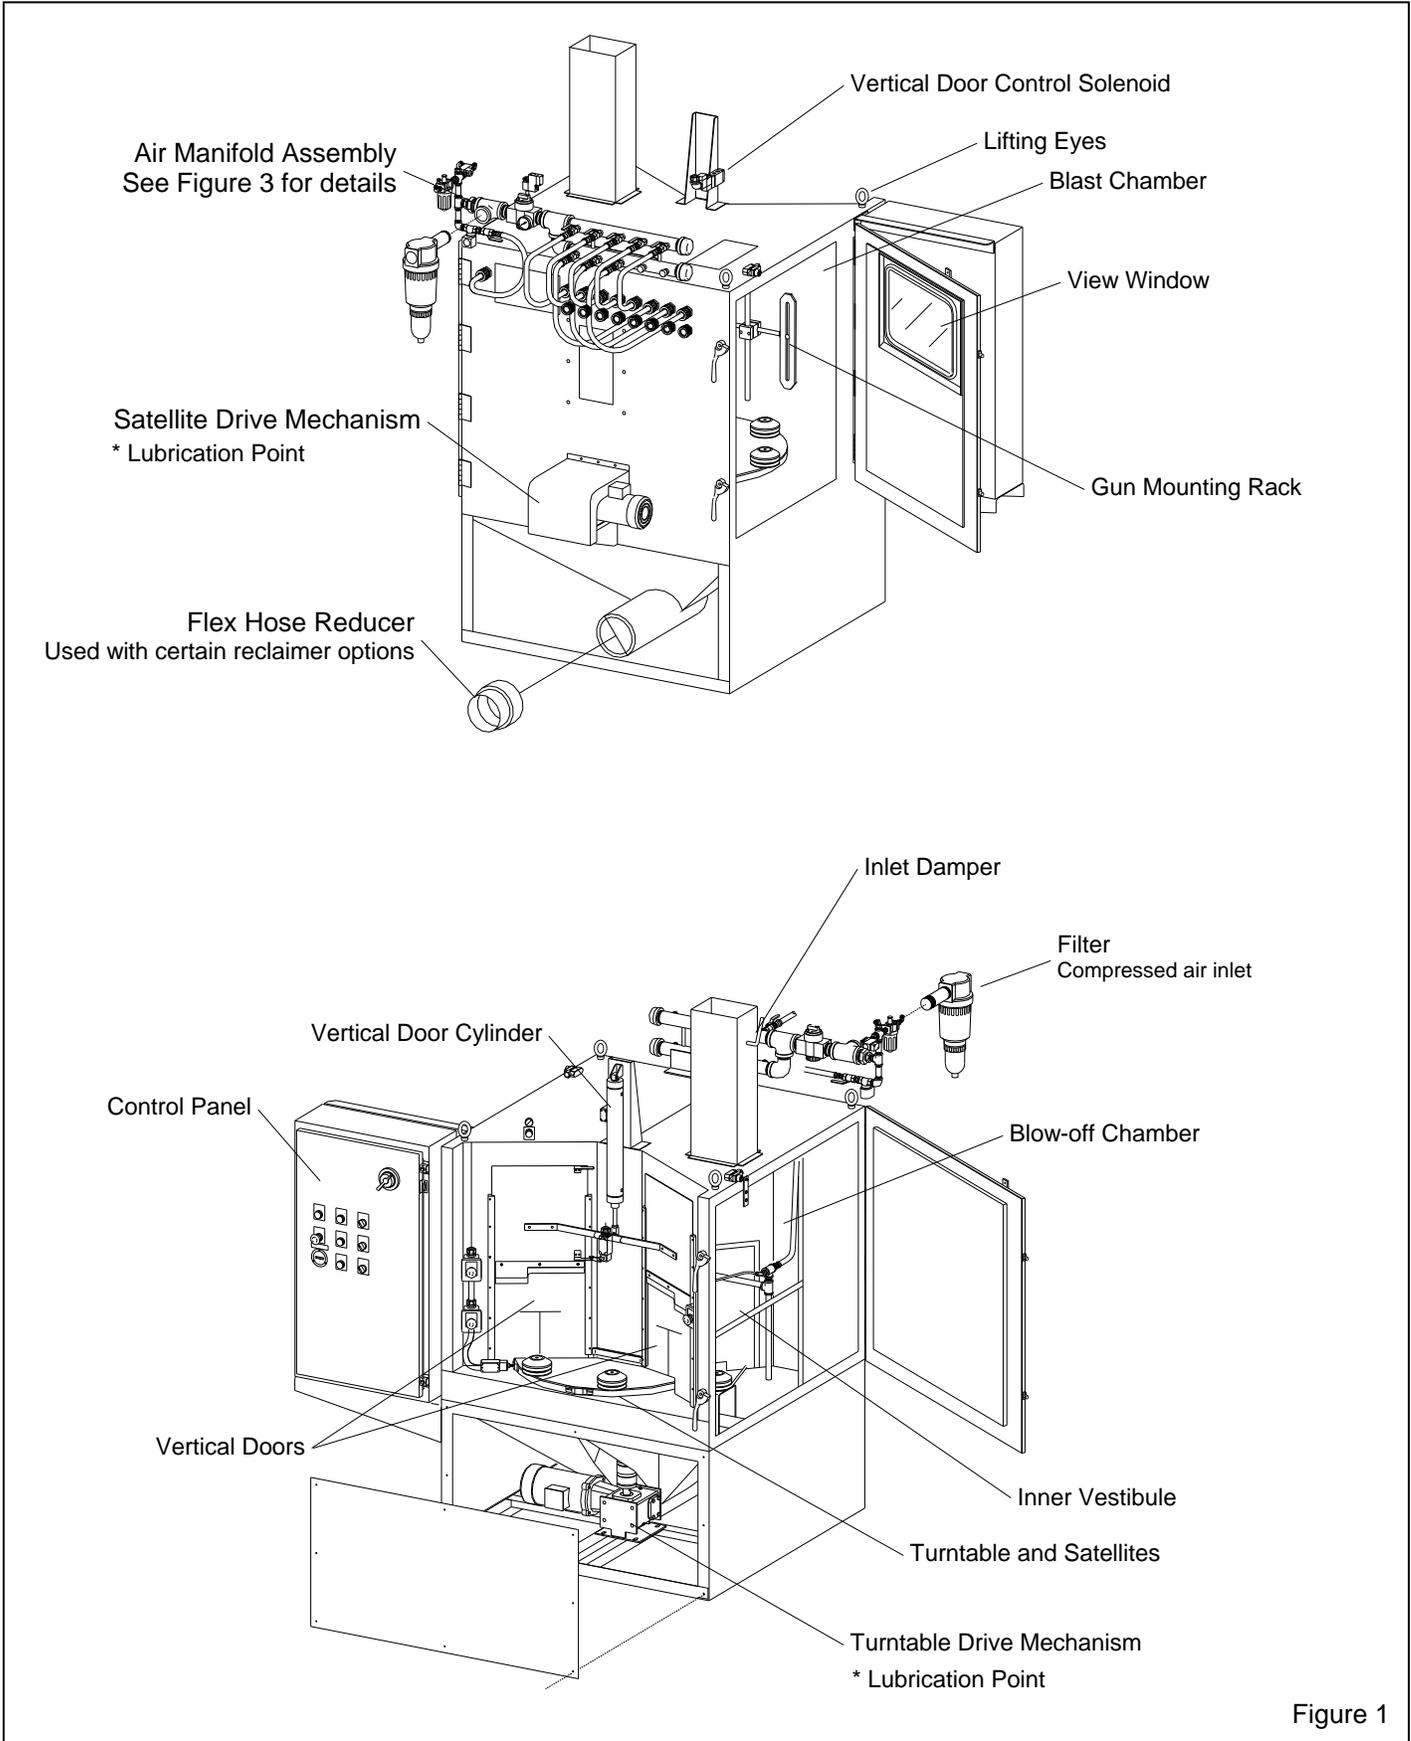

Figure 1
1.3.1 Indexing blasting and peening system includes the cabinet enclosure, optional media-add hopper, reclaiming, and dust collector. The primary parts are shown in Figures 1 through 3, and in the general arrangement drawings.